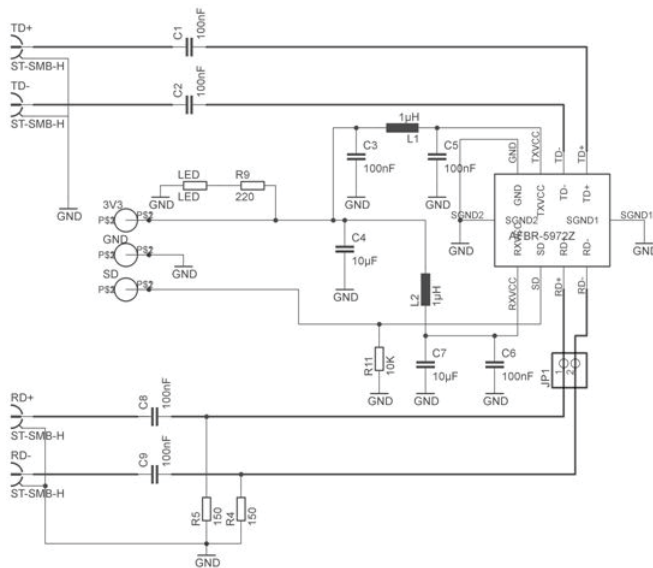

Figure 2. Schematic of the AFBR-0544Z evaluation board
The evaluation board schematic is shown in Figure 2. The transmitter is AC coupled and LVDS compatible as well as LVPECL compatible (Circuit diagram shown in application note - AN 5523), and the receiver is AC coupled and LVPECL compatible as well as LVPECL compatible (Circuit diagram shown in application note). The signal detect (SD) pin is LVPECL compatible. The thick PCB trace between the SMA connector and the input/output pins of AFBR-5972Z represents a 50  $\Omega$  transmission line. The top- and bottom-sides of the evaluation PCB are shown in Figure 3(a) and 3(b) respectively.
The AFBR-0544Z evaluation board electrical schematic is shown in Figure 2, and the bill of materials (BOM) is given in Table 2.